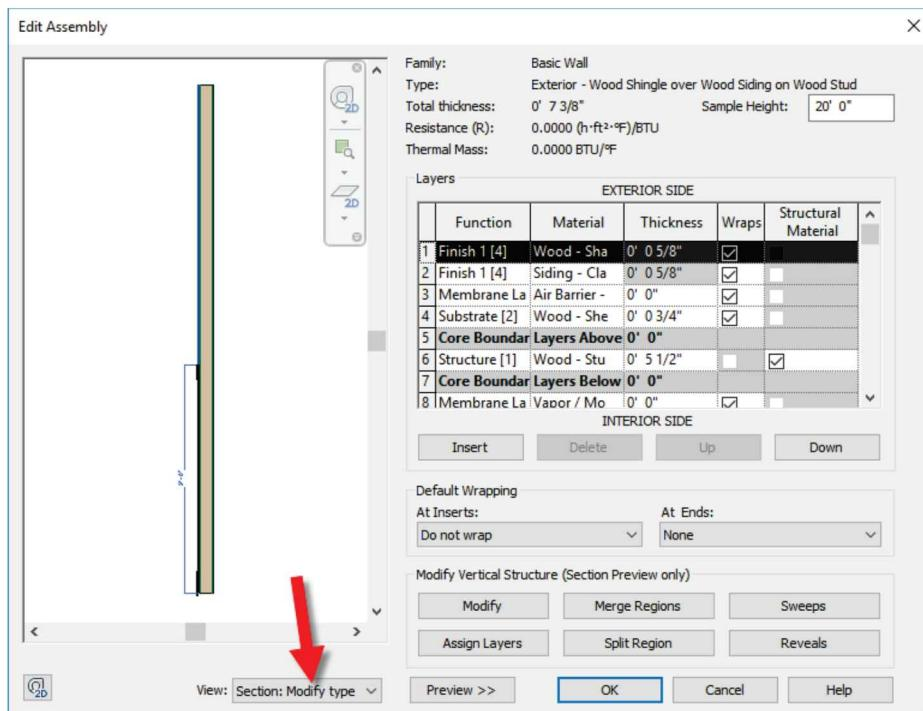

FIGURE 11-3.7 Wall structure – edit assembly
11. Below the preview pane, set the **View to Section: Modify type attributes** so the wall is shown in section (Figure 11-3.7).